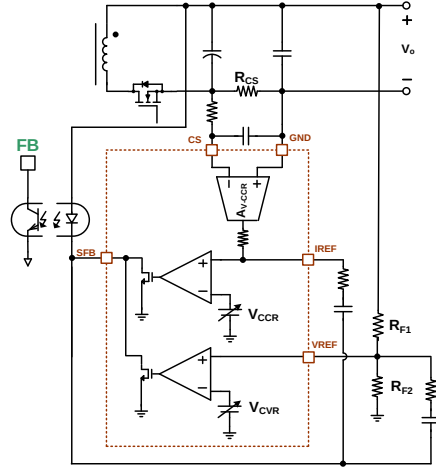

Figure 18 Constant Voltage and Constant Current Circuit
The internal constant voltage control block regulates adaptive output voltages. Output voltage is sensed through an external resistor divider. The sensed output voltage is connected to the VREF which is the non-inverting input terminal of the internal operational amplifier. The inverting input terminal is connected to the internal voltage reference (V_{CCR}) which can be adjusted according to the requested output voltage via Quick Charge 3.0 protocol. The amplifier and an internal switch operate as a shunt regulator. The output of the shunt regulator is connected to the external opto-coupler, and this pin is named as Secondary Feedback (SFB). To compensate output voltage regulation being stable, one capacitor and one resistor are connected typically between the SFB and VREF pins as shown in Figure 18. The output voltage can be derived as shown in equation (1) and the recommended ratio of the resistor divider is 5.
In order to support adaptive constant output current, FAN6290Q incorporates the constant-current control circuit internally. Output current is sensed via a current-sense resistor, R_{CS} , which is connected between the CS pin and GND pin. The sensed signal is internally amplified, and this amplified voltage is connected to the non-inverting input of the internal operation amplifier. Likewise the constant voltage amplifier circuit, it also plays a role as a shunt regulator to regulate the constant output current. In order to compensate output current regulation, one capacitor and one resistor are connected between IREF and SFB pins typically as the Figure 18. The constant output current is decided by the equation (2). 30 mΩ is typically used for the sense resistor.
Since CS pin senses small amounts of voltage, the sensing resistor should be positioned as close as possible to CS pin. Shown in Figure 18, an RC low pass filter can be added on the CS pin to be immunized from noise.